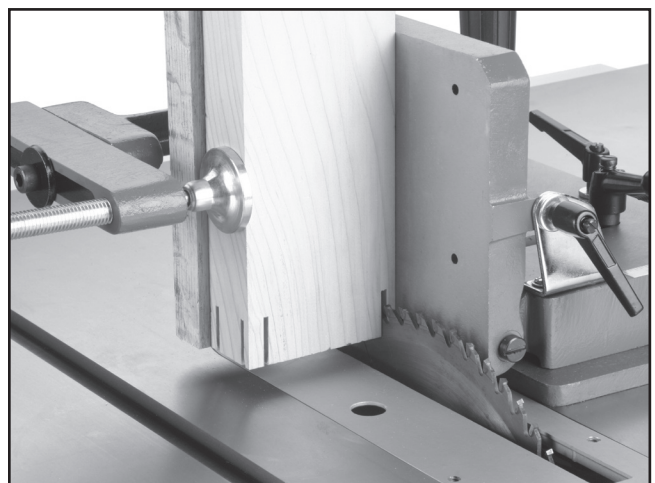

Figure 24. Third and fourth cosmetic cheek cuts.
8. Power up the saw, and make the remaining cosmetic cheek cuts the same way as in **Steps 3 & 4**, unplug and turn **OFF** the saw (see **Figure 24**).